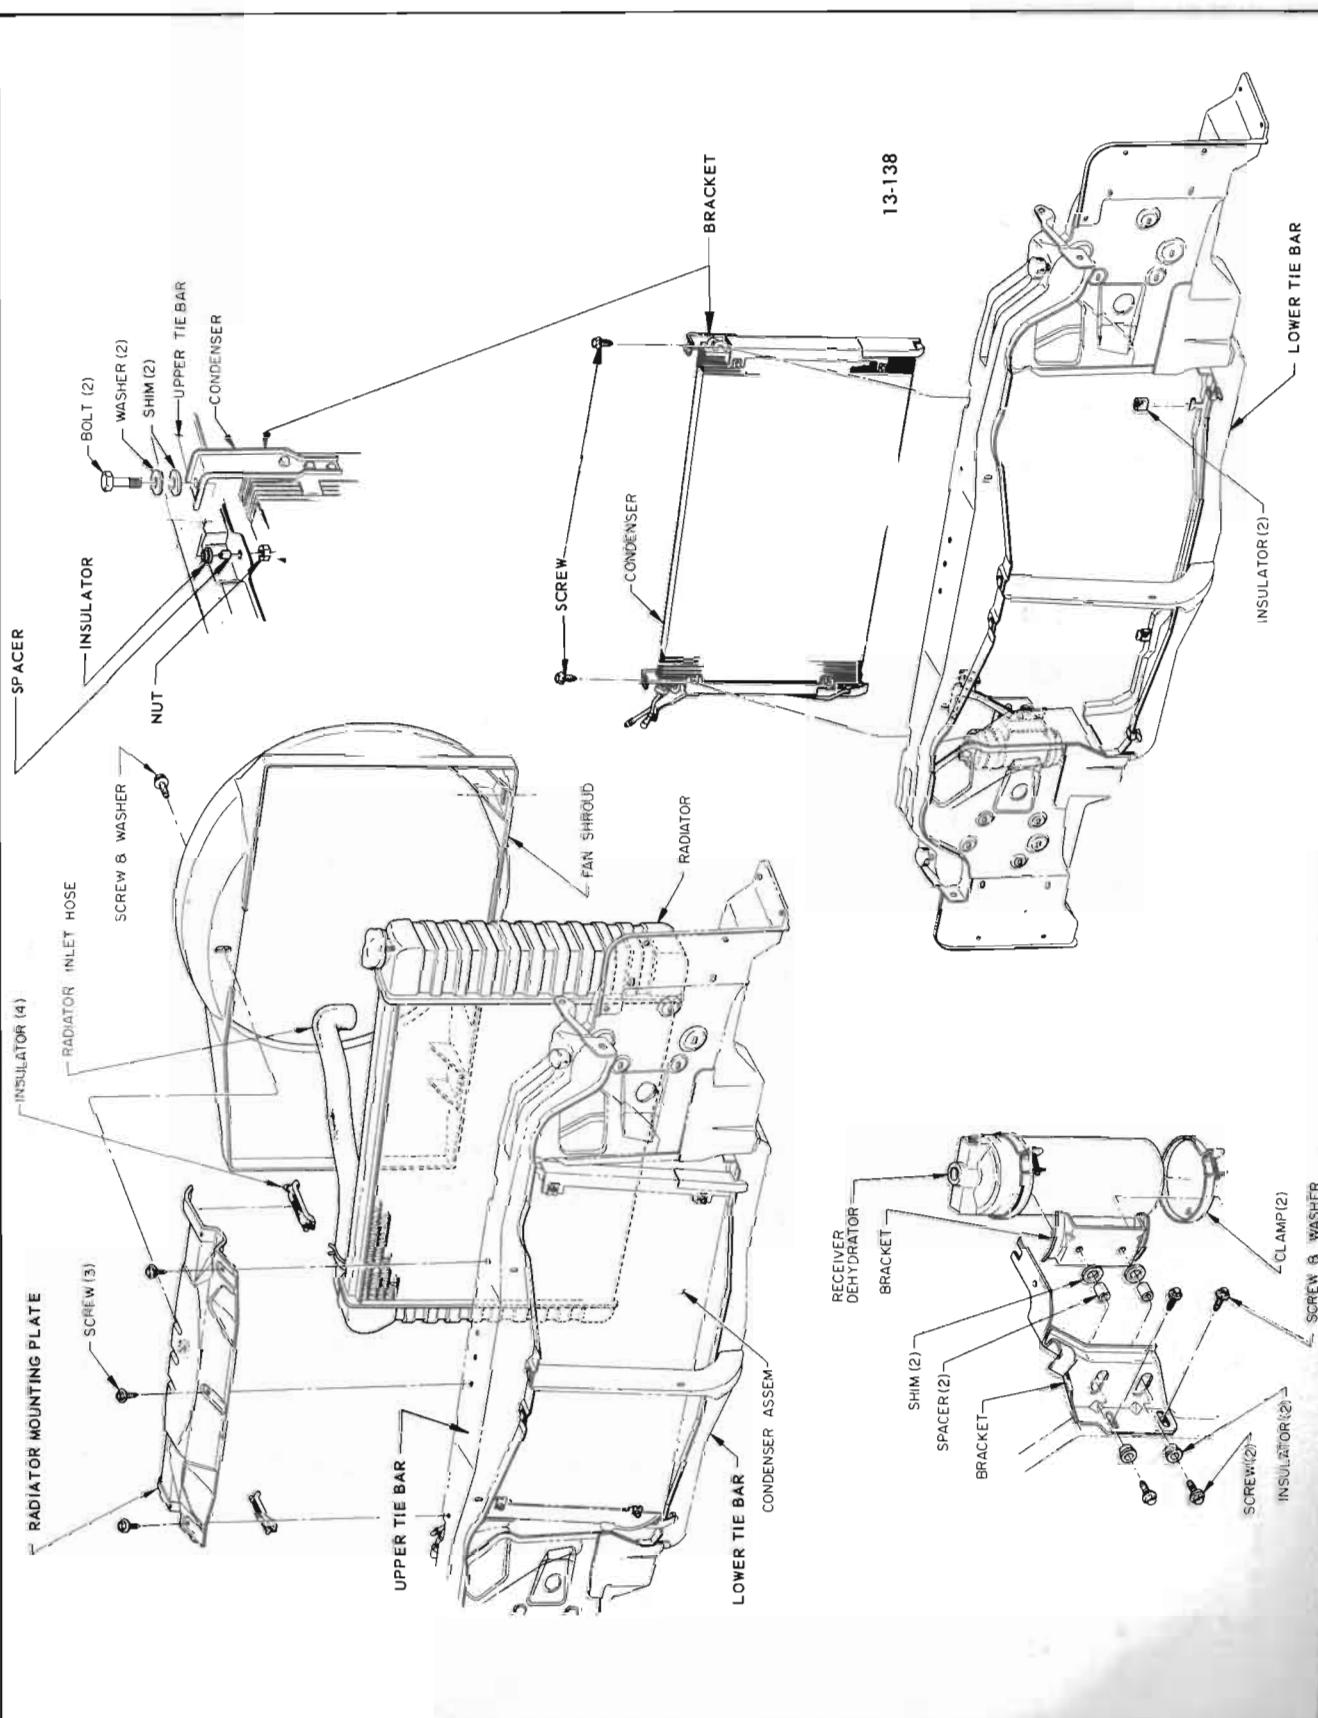

Figure 13-138—Installation of Receiver-Dehydrator and Condenser
1. Remove three (3) bolts securing radiator mounting plate to upper tie bar and one (1) bolt securing plate to shroud. Remove plate. See Figure 13-138.
4. Remove bolt, washer, and shim securing condenser bracket to upper tie bar and remove condenser. See Figure 13-138.
3. Release clamps and lift out receiver-dehydrator. See Figure 13-138.